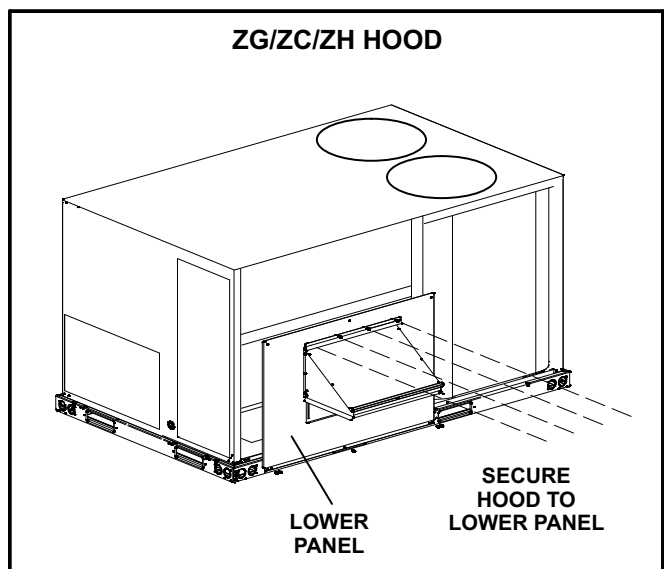

FIGURE 8
ZG/ZC/ZH Only - Align four holes in top seal with holes above opening in lower panel. Secure with sheet metal screws. See figure 8.
- 4- Secure hood left side to the hood top and to the cabinet using the provided screws. See figure 8.